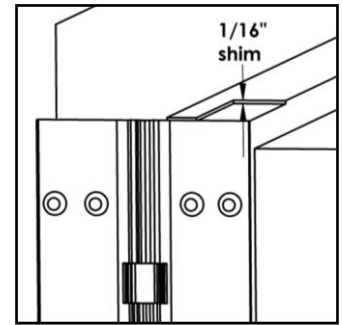

Fig. 1
1. With the hinge open, place the hinge frame leaf against the frame rabbet making certain that the alignment rib is flush against the frame face along its entire length. Position the top of the hinge 1/16" (1/8" maximum) below the header. **Note: A 1/16" shim is recommended due to initial settling of the bearings.** (See Fig. 1)